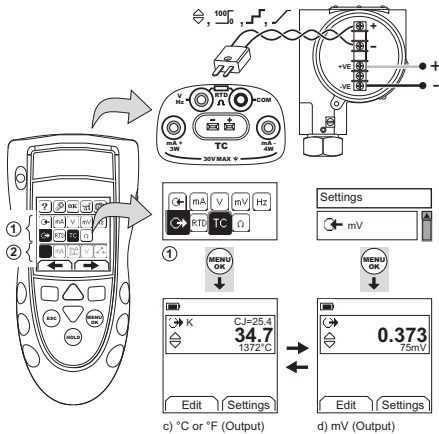

Figure 9: Example Configuration - To Measure/Simulate the Temperature (°C/°F) or mV Values of a TC
Attach the TC wires to the applicable TC mini-connector (Figure 9). The wider blade is the negative. Then attach the connector to the instrument.
1. Connect the instrument (Figure 9) and, if necessary, adjust the Set Up (Table 1).